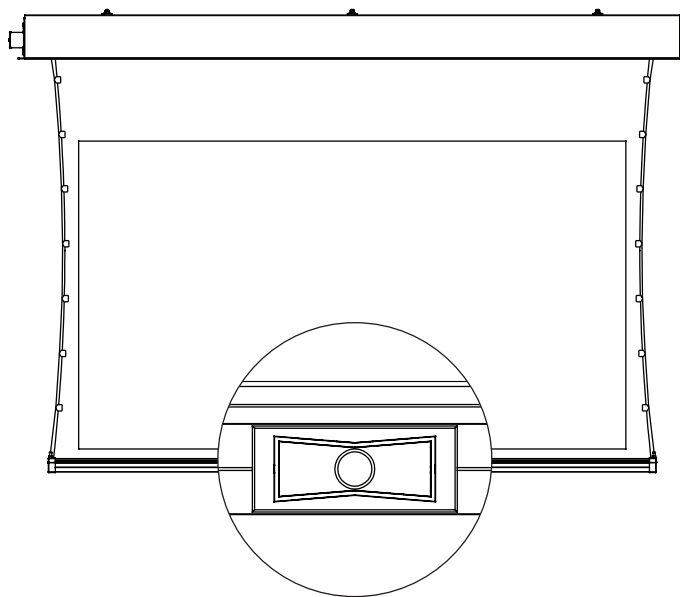

Figure 2
3. Lower the ViewShare Advantage screen and note the camera location in the center of the slat bar (Figure 2).